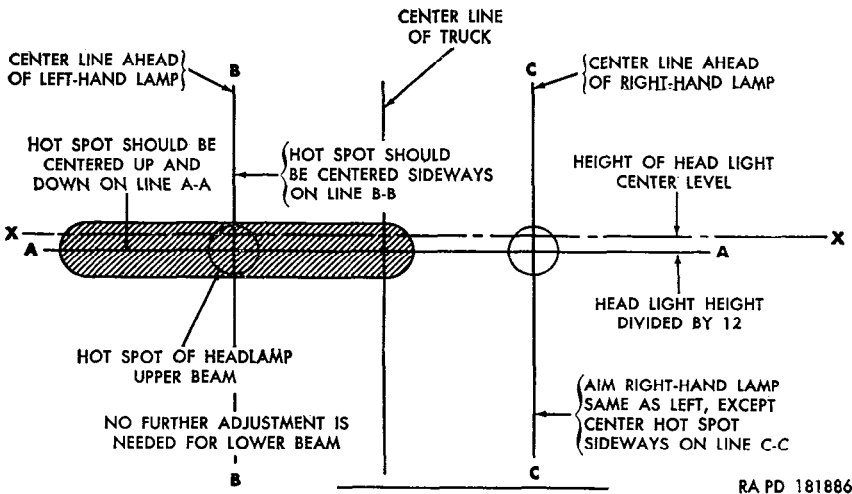
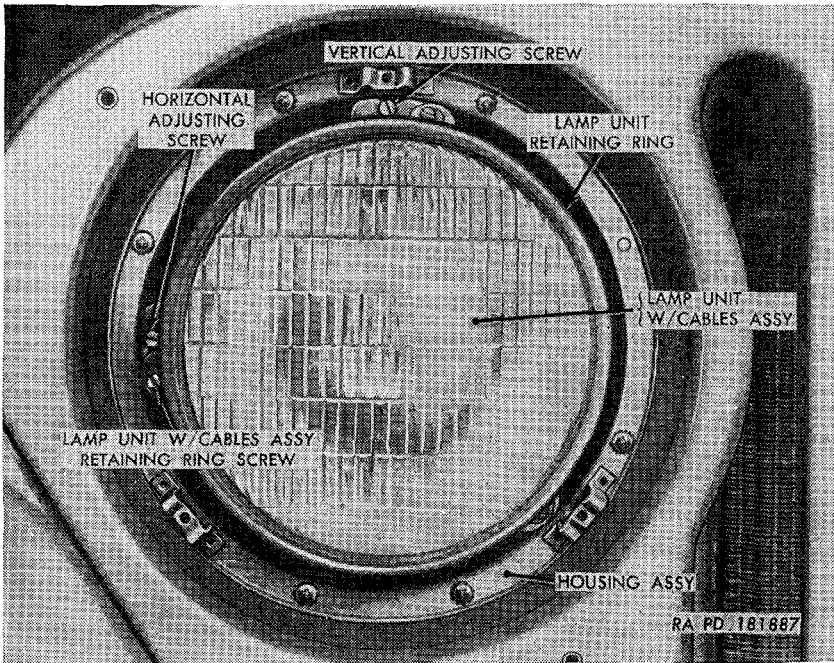

Figure 100. Headlight adjustment chart.
Figure 101. Headlight assembly—door removed.
- (1) Place the unloaded vehicle on a smooth, level, horizontal surface so the headlights are 25 feet from a vertical wall or other vertical surface. The center line of the vehicle should be at right angles to the vertical surface.
- (2) Measure the height of the headlight center from the floor, and mark a horizontal line at this height on the vertical surface (X-X, fig. 100).
- (3) Mark line A-A, one-twelfth the distance between X-X and the horizontal surface, below X-X (fig. 100).
- (4) Measure the distance from the center of the left headlight to the center of the right headlight. Scribe this dimension on line X-X and then mark vertical lines B-B and C-C as shown in figure 100.
- (5) Turn on headlights at light switch and select high beam with dimmer switch. It is not necessary to make adjustment on low beam.
- (6) Cover one headlight while adjusting (aiming) the other. Aim headlight so center of hot spot registers with intersecting lines A-A and B-B, or A-A and C-C respectively (fig. 100).
- (7) Remove headlight door (*b(1)(a)* below).
- (8) Adjust headlight beam by the adjusting screws shown in figure 101. Top adjusting screw provides vertical adjustment and side screw provides horizontal adjustment. Turn adjusting screws as necessary to obtain beam pattern as shown in figure 100. Adjust opposite headlight in same manner.
- (9) Install headlight door assembly (*b(2)(d)* below). Turn off headlights.
- (b) Loosen the three lamp-unit retaining ring screws (fig. 101). Turn the ring counterclockwise and remove from the lamp-unit.